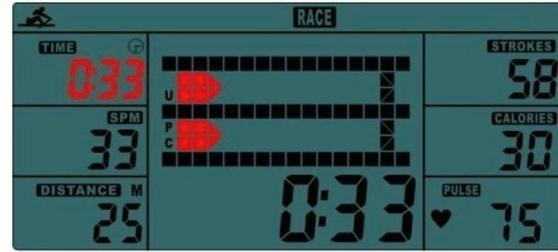
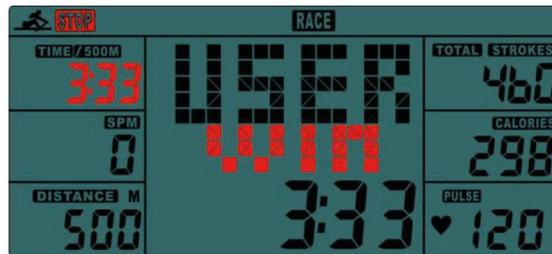

Fig. 6
Fig. 7
1. Press START button to start and STOP will disappear. USER(U) and PC will display in the matrix (Fig.6). The computer will stop when either user or computer has reached the race distance that was set. The display shows "PC WIN" or "USER WIN" (Fig.7).